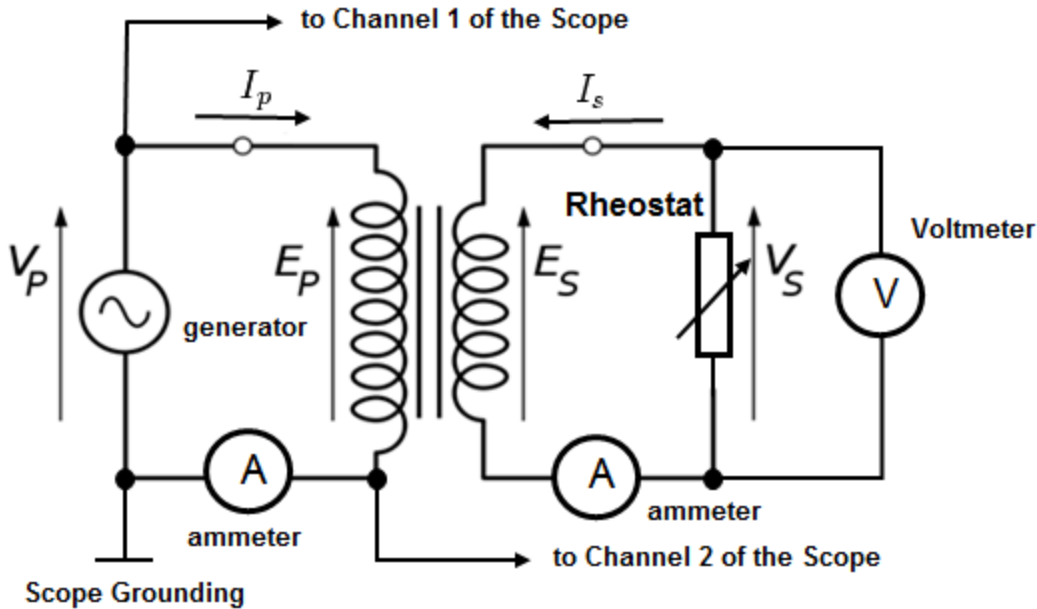

Figure 13: Electrical circuit for the experiment of measuring the transformer with load in the secondary coil
6. Connect the circuit and multimeters to measure current and voltage in the primary coil and secondary coil as shown in Figure 13. Note that when the multimeter which measured V_p then moves on to measure I_s adjust the rheostat to 10Ω resistance. Measure the R_L resistance precisely. The black multimeter may be used to measure the voltage V_p . How should the multimeter be connected to measure this voltage?